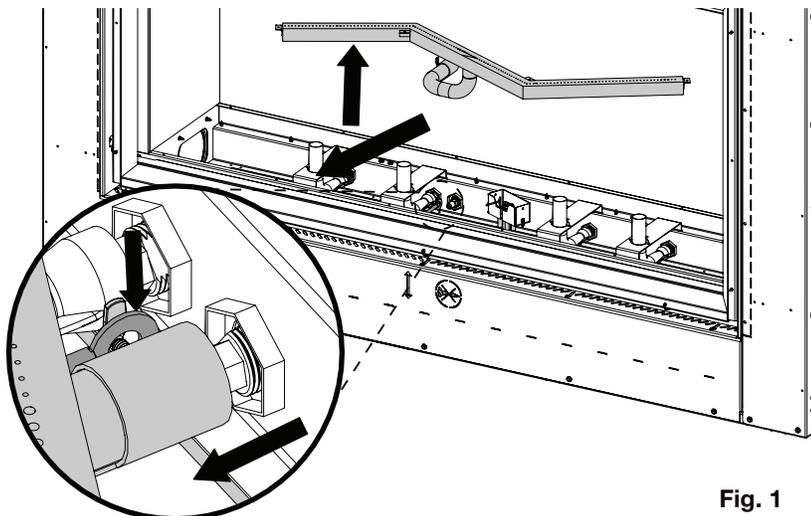

Fig. 1
- 5. Disengage the air shutter adjustment rod by lifting it off of the air shutter on the main burner Venturi **(Fig. 1). The rubber grommet must stay in place.**
- 6. Remove the burner by pulling it forward off the orifice and lift it from the appliance. **Be careful not to hit or bend the pilot probe (Fig. 1).**